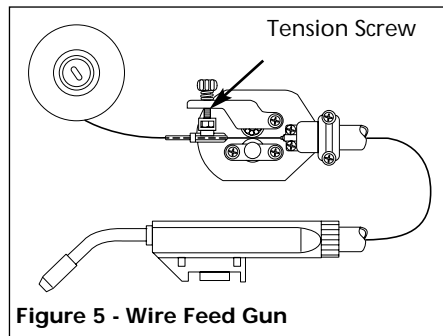

Figure 5 - Wire Feed Gun
8. Turn on the welder and set the wire speed rate to 8. Activate the gun switch until the wire feeds out past the torch end. (See Figure 5.) **Turn welder off.**